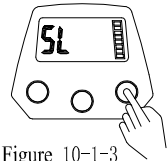

Figure 10-1-3
- 3、 Selecting "SL", then to press the "Reset" button to confirm, and "SL3" will appears on the screen (Figure 10-1-3).